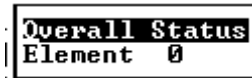

Figure 3-13: Audible Alarms
- **Audible Alarms:** - This option will show the user the status of the audible alarms that are used in the JBOD enclosure. If selected the menu in *Figure 3-13* will appear.